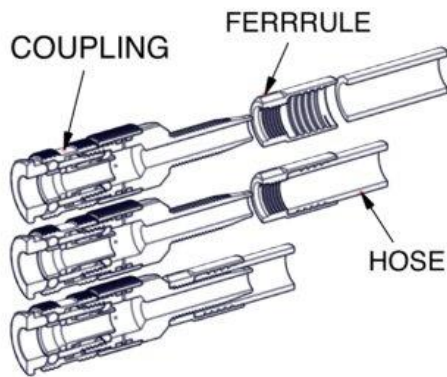

Figure 3-2. Air Hose Quick Connect Coupling Replacement
b. **AIR HOSE QUICK CONNECT COUPLING REPLACEMENT.** Refer to figure 3-2 and replace a worn or otherwise damaged air hose quick connect coupling in accordance with the following procedure.